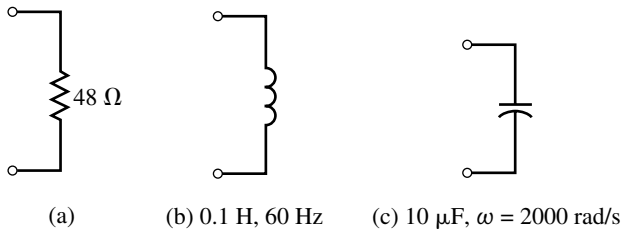

FIGURE 16–55
32. If $\mathbf{E} = 100\text{V}\angle 0^\circ$ is applied across each of the circuit elements of Figure 16–56: